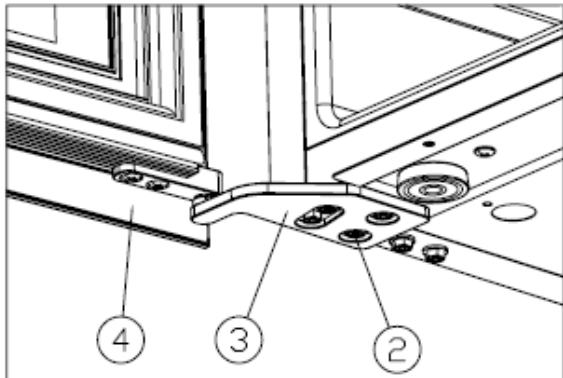

Figure 5
✧ Install the right upper hinge ③,and screw tight theM5*16 screws②.[Figure 5]